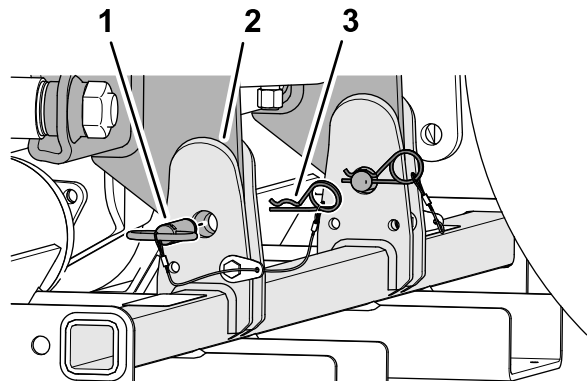

Figure 46
3. Secure the storage stand to the machine with the 2 storage-stand pins and 2 hairpins (Figure 46).